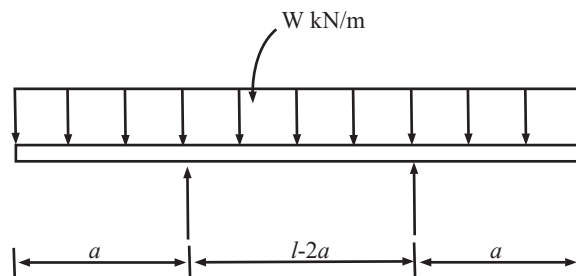

Fig 7
- Q.7.** A uniformly loaded beam with equal overhang on both sides of the supports is shown in the fig.7. Draw the bending moment diagram, when $a = l/4$. (May-03)